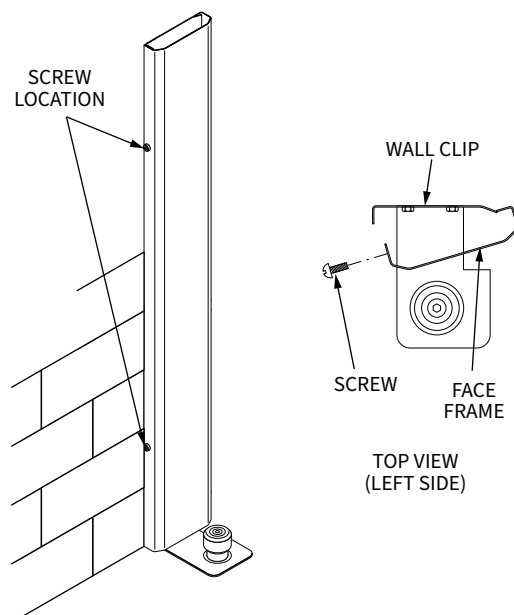

Figure 16: Fastening Face Frame Covers to Wall Clips
1. Locate photoeye cables on back of header and identify each pair of wires by its location near the grommets in the bottom edge of the header. You will be installing one set of an emitter and receiver on each side frame. It must match up with the corresponding emitter and receiver on the other side frame. Remove the emitter and receiver heads from each wire for installation into face frames (Figure 16).